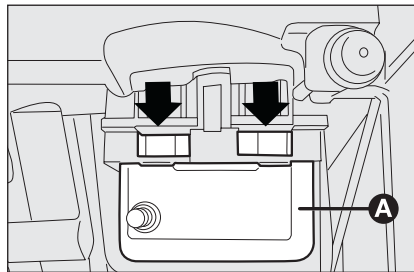

fig. 37
- work at the points shown by the arrows and remove the courtesy light **A-fig. 37**;
- refit the courtesy light **A-fig.37** in its housing making sure that it is secure.